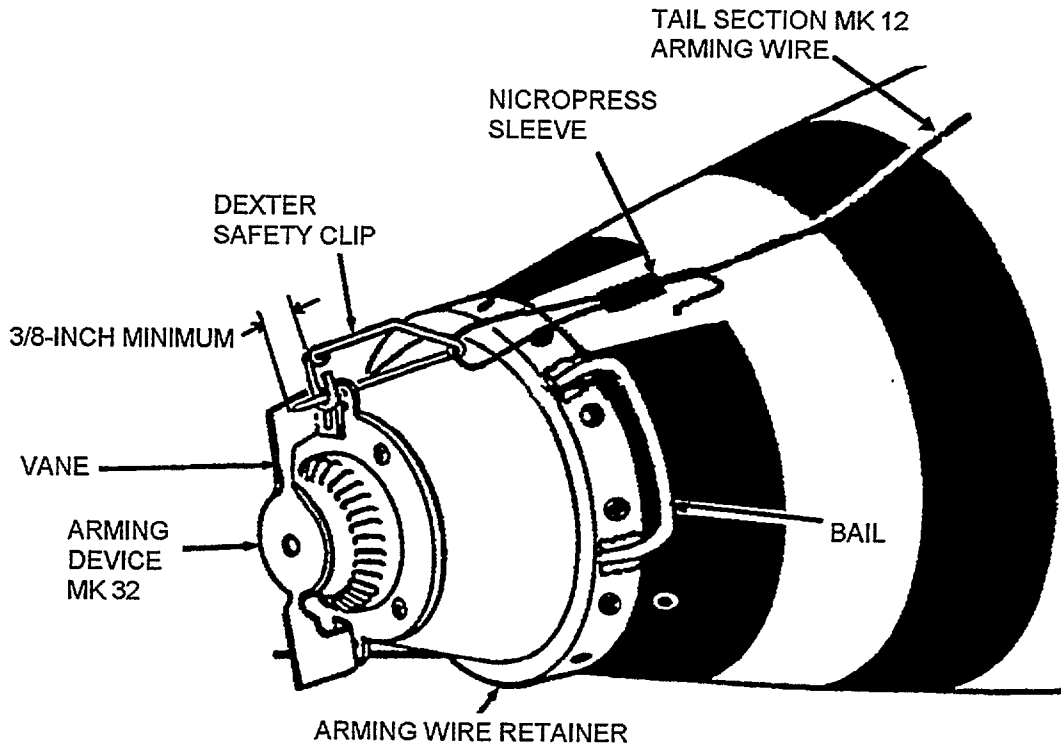

Figure 4-15E. Details of Tail Section Mk 12 Arming Device Arming Wire Rigging for F/A-18 and P-3 Aircraft
- c. Pass the swivel end of Arming Wire Mk 9 through back side of aft suspension lug (Figure 4-15E). Pass the straight end of wire through loop of swivel; draw on wire until 1-1/2 inch loop is formed at the suspension lug.
- h. Bend the free end of wire back on itself. Slide the Nicropress sleeve over the free end to within an inch or so of the safety clip. Bend the free end back on sleeve and cut off excess wire in line with forward edge of sleeve (Figure 4-15E).
- i. Secure the Nicropress sleeve in place by crimping it to the arming wire with pliers, ensuring short segment of wire lies flat on sleeve, as shown in Figure 4-15E.